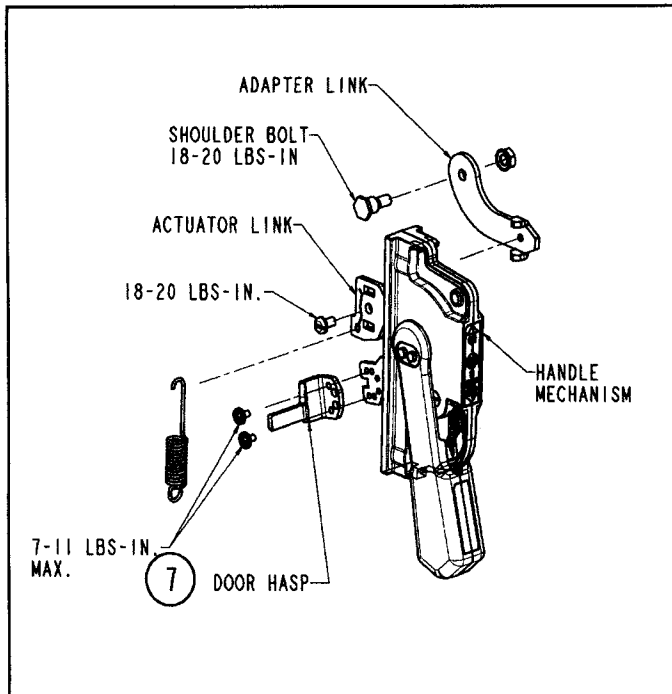

Fig. 1-2 Outer Handle Mechanism Assembly
7. Mount door interlock hasp to handle. (7-11 in-lbs MAX) See Fig. 1-2.